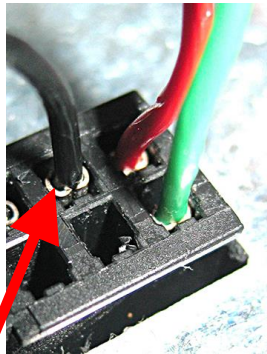

Figure 49
56. Insert the black wire into the position directly to the left of the red wire inserted in step 54 (pin 7) (see Figure 49).